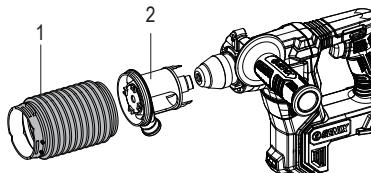

Fig.4
mount (2) into the auxiliary handle, making sure to align the mount (2) with the slots in the handle. Attach the dust collection shroud (1) to the mount (2) and ensure a secure fit (Fig.4).